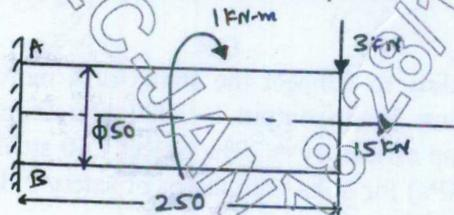

Fig.Q1(b)
- A circular rod of diameter 50 mm is subjected to loads as shown in Fig.Q1(b). Determine the nature and magnitude of stresses at the critical points.